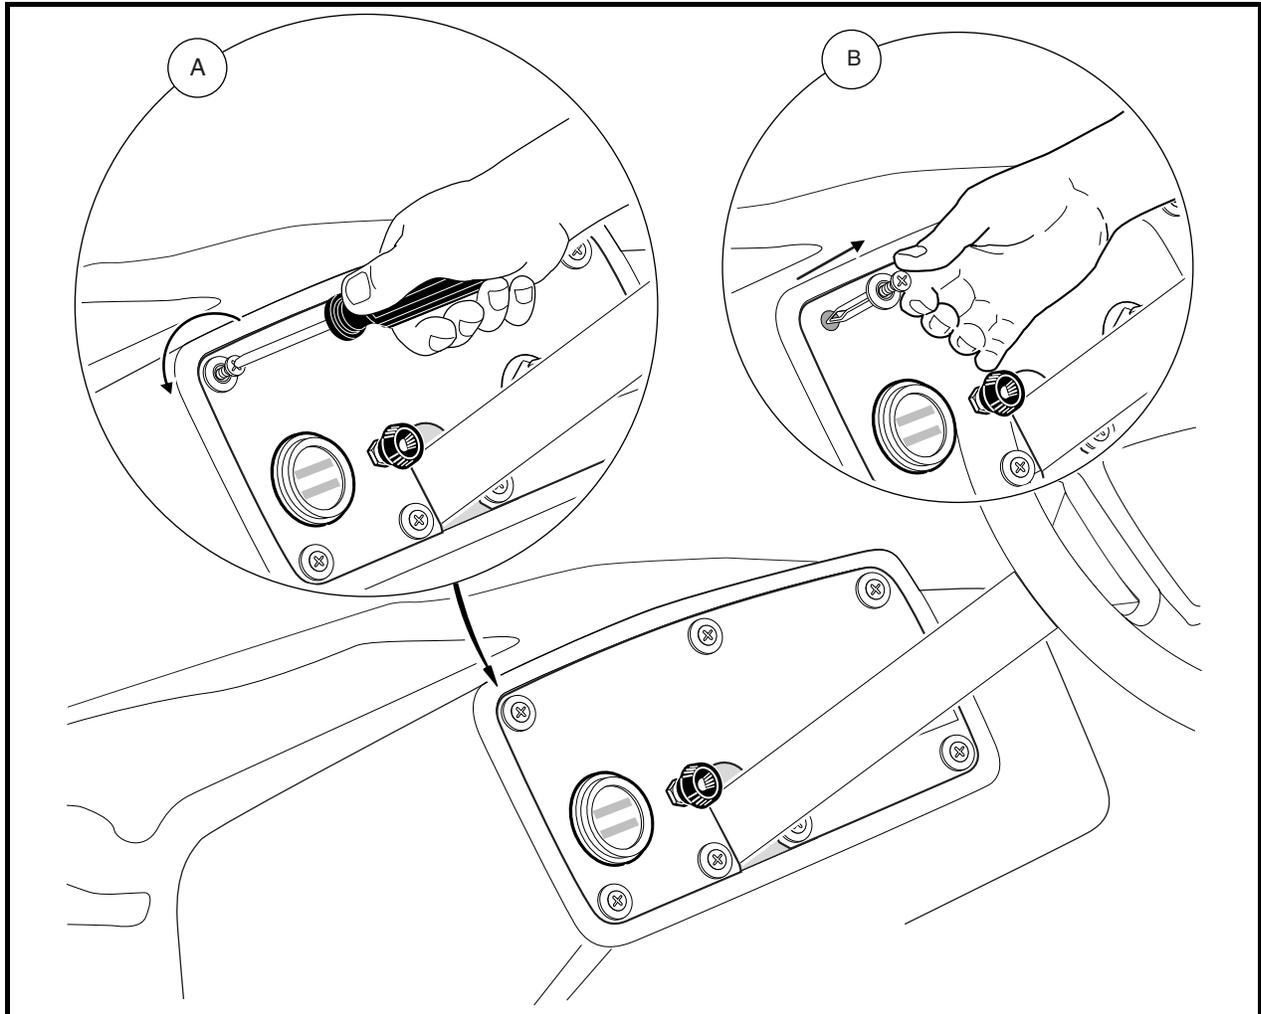

Figure 4-1 Dash Panel Removal
- 3.1. Loosen the seven Tuflok[®] screws shown in Detail A (**Figure 4-1, Page 4-3**).